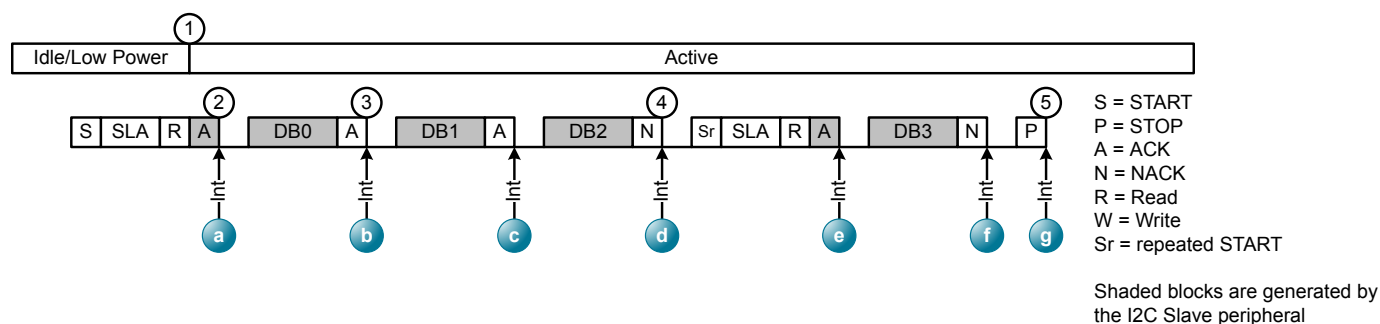
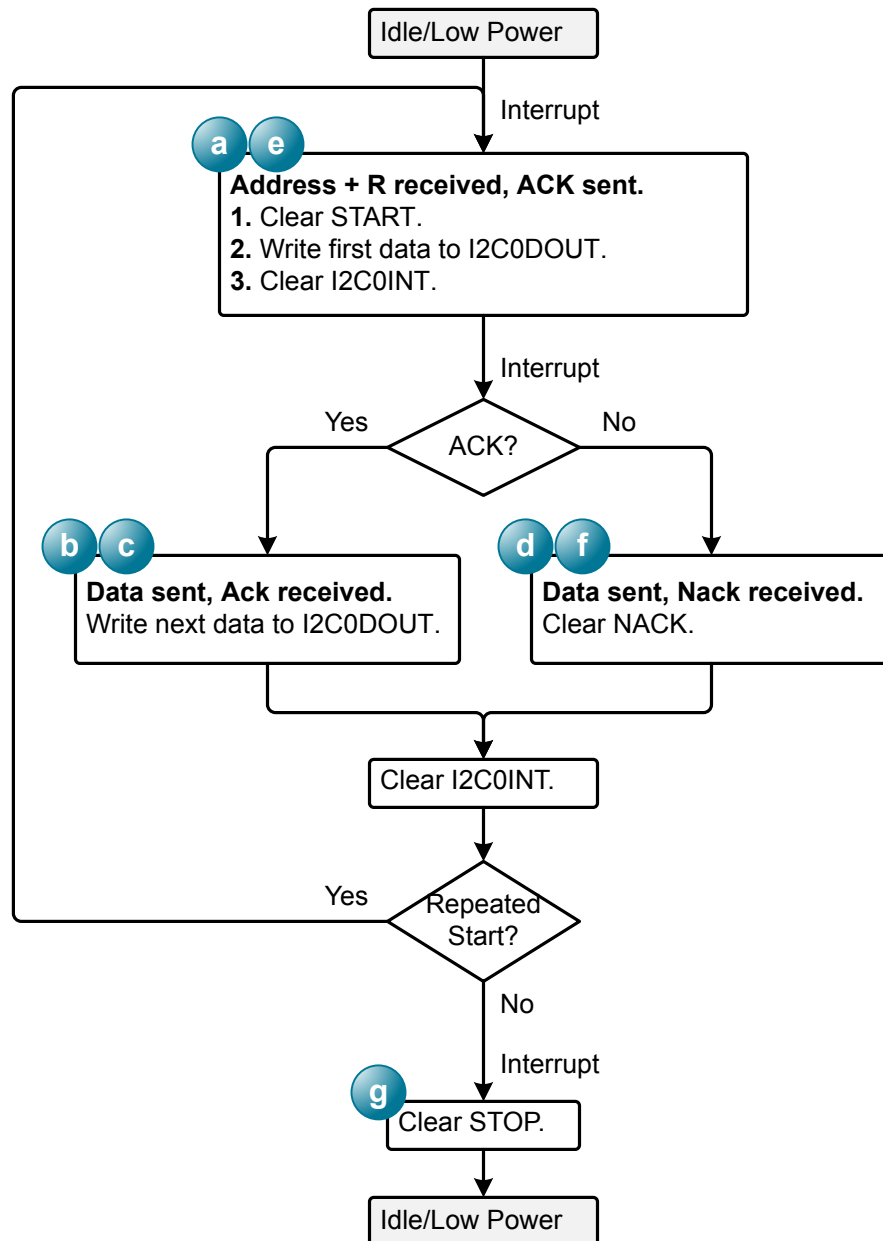

Figure 15.7. Example I2C Read Sequence with the I2C Slave Peripheral
Figure 15.8. I2C Read Flow Diagram with the I2C Slave Peripheral
2. An interrupt occurs after the automatic ACK of the address. The I2C peripheral holds the SCL line low for clock stretching until firmware clears I2C0INT. Firmware should read the data from the master and take the actions indicated by Figure 15.8 I2C Read Flow Diagram with the I2C Slave Peripheral on page 168.
Figure 15.7 Example I2C Read Sequence with the I2C Slave Peripheral on page 167 demonstrates an example sequence, including a repeated start, and Figure 15.8 I2C Read Flow Diagram with the I2C Slave Peripheral on page 168 describes the I2C Read sequence and firmware actions in each interrupt.